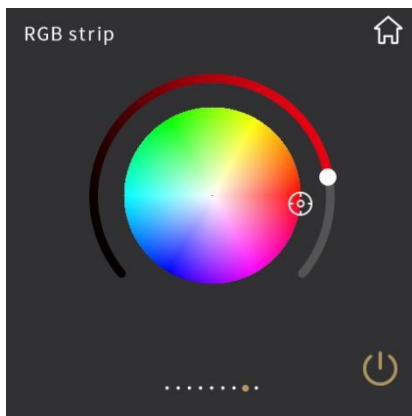

Fig.2.7.1
② This area displays the page description identification of RGB dimming function page, user can define the description through ETS;
③ Return to the home page by touching this icon;
④ This ring slider is used to adjust the colour shade of the RGB lamp;
⑤ This icon is the colour palette;
When RGB dimming function is configured as RGB, function page interface as shown in Fig.2.7.1, sliding ring slider④ to adjust the colour shade of RGB lamp, when ring slider④ is slid to the left bottom, RGB lamp is completely OFF, at this time, the button① become gray, and no reaction when operate the colour palette⑤.